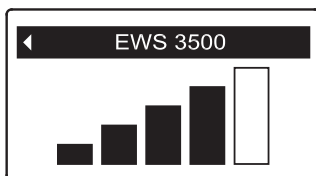

FIG. 52
Begin by checking the signal strength between the conditioner/refiner and the remote. If the signal is weak (2 bars or less on the display shown in Figure 52), move the remote to a different location to try improving the signal strength.
4. Press the SELECT (○) button, and the screen shown in Figure 52 will appear. The more bars that are filled in black, the stronger the signal. The signal strength display updates every 15 seconds.